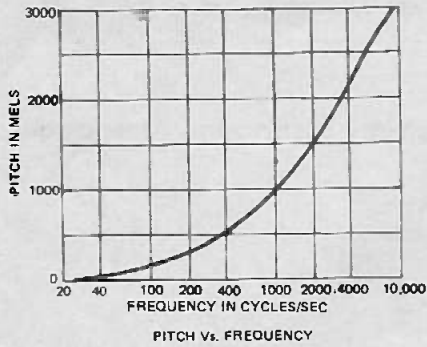

Fig. 3.
**Absolute Pitch** Although perception of pitch is not precisely logarithmic, an exponential characteristic comes fairly close to producing equal subjective pitch change from a linear input. (Fig. 3.).